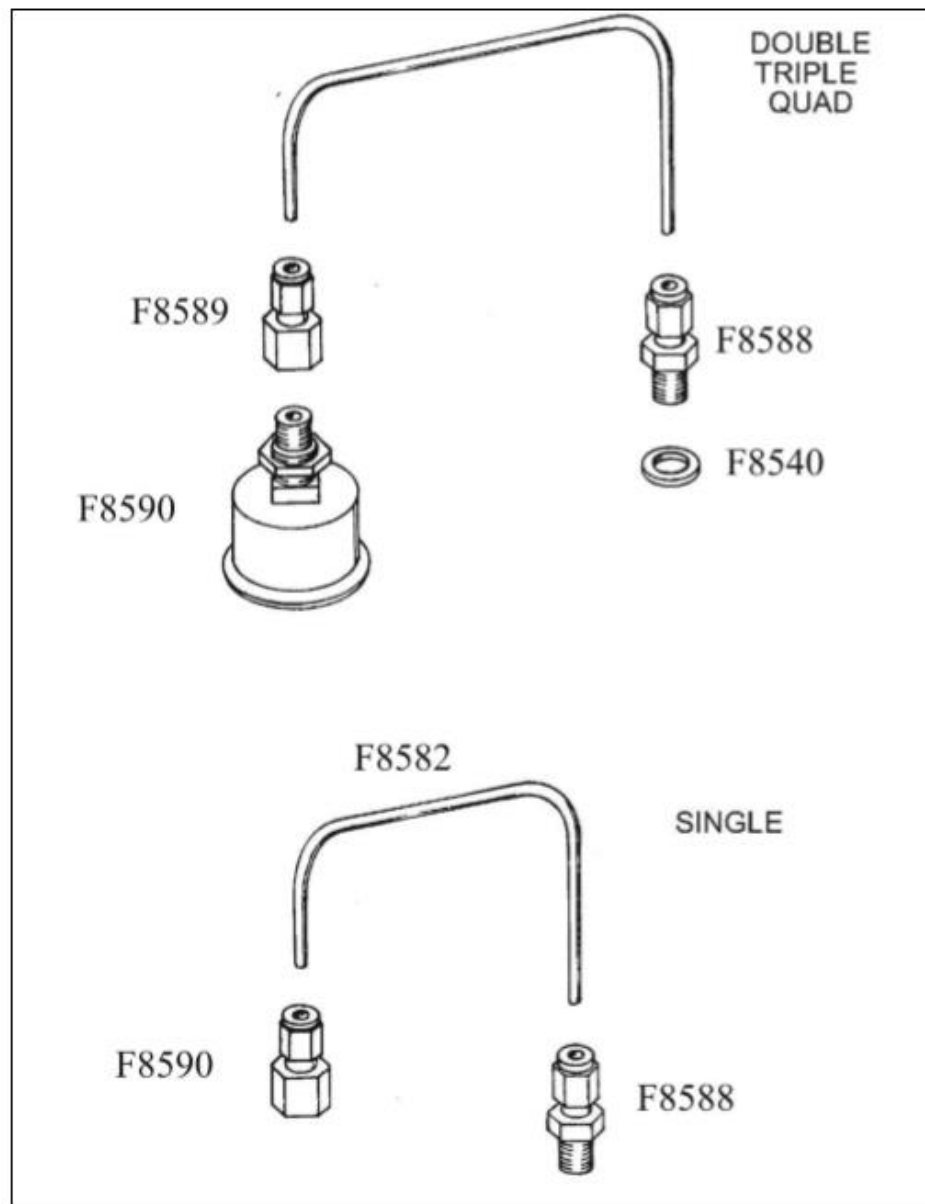

Figure 8: FUEL PRESSURE GAUGE
8. PRESSURE GAUGE & FEED PIPE: Figure 8